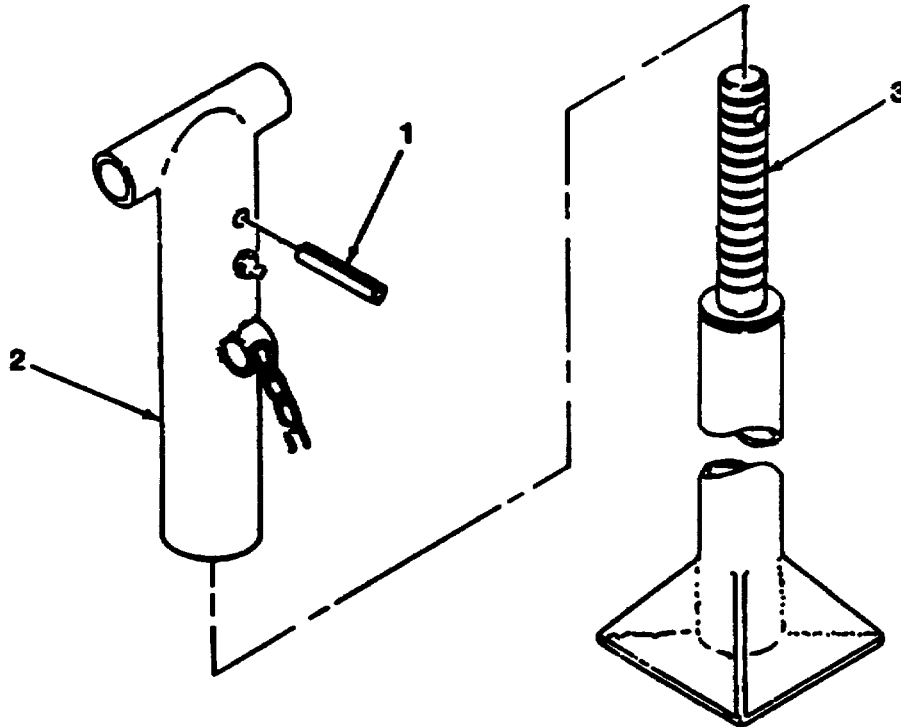

Figure 5-8. Rear Leg Prop Disassembly.
- (5) Lift leg assembly slightly to take weight off angled bar (1) and remove bar.
- (6) Lower leg assembly from bracket (4).
- (7) Remove two screws (7), four flat washers (8), two lockwashers (9), and two nuts (10).
- (8) Remove screw (11), flat washer (12), lockwasher (13) and nut (14). Remove bracket (4) from trailer frame (15).
b. Rear Leg Prop Assembly Repair. (See figure 5-8). Repair of the rear leg prop assembly is limited to welding and repainting. Partial disassembly may be necessary to facilitate repair. If required, repaint in accordance with MIL-T-704, and MIL-C-46168.
(1) Disassembly.
- (b) Clamp rear leg prop assembly in vise with spring pin (1, figure 5-8) facing up.
- (c) Remove drive spring pin from upper leg (2) and remove leg base (3).